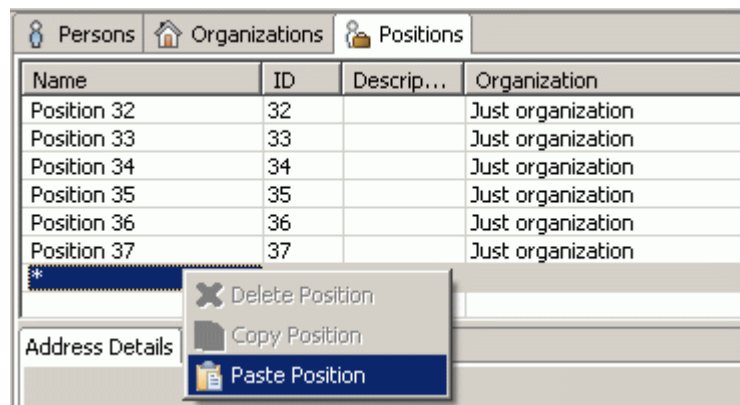

Figure 6. Context sensitive menu in Positions panel, Paste Position
- Right click on the auto row (cell with an asterisk) at the bottom of the table list. A context sensitive menu appears (see Figure 6).